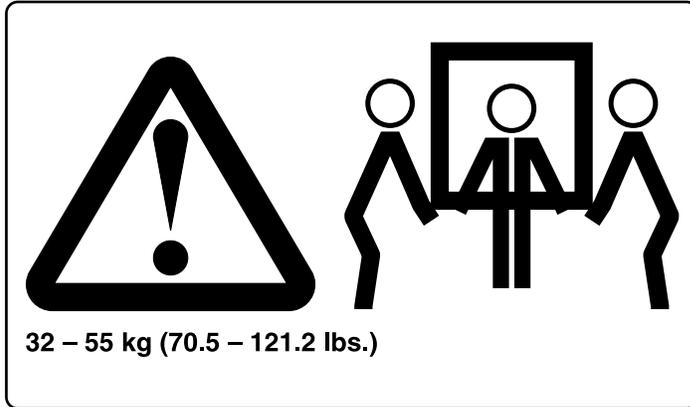

Figure 8. Three-man lift label
3. Three-man lift. See Figure 8 on page xx.